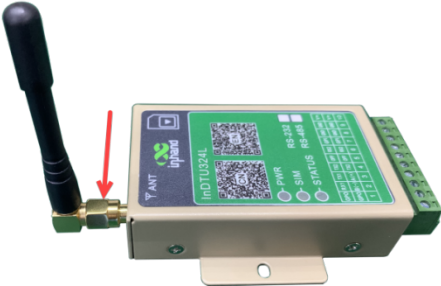

Figure 3-1-6 Installing the antenna of the InDTU324
Step 2: Install the antenna. Gently rotate the movable part of the metal SMA-J connector to the end with your hand, until the external threads of the antenna connection wire cannot be seen. Do not hold the black rubber sleeve and twist the antenna forcibly. See Figure 3-1-6.